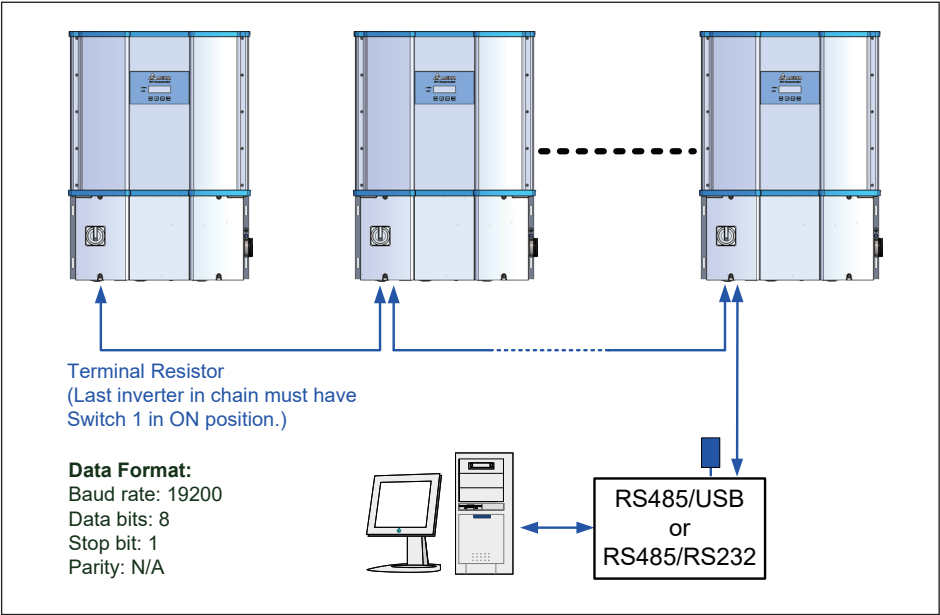

Figure 3-29: Multiinverter connection illustration
A 120 ohm bus termination resistor and associated control switch are located on the communication board (See **Figure 3-29**) The switch function is as shown in **Table 3-2**.
- When several inverters are cascaded (i.e., "daisy-chained") only the last inverter in the chain must have its bus termination resistor switched ON. Refer to **Figure 3-29**.